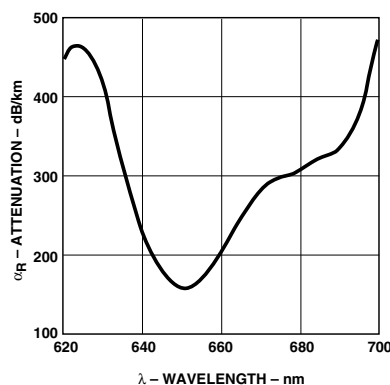

Figure 1. Typical POF attenuation vs. wavelength.
| Reference Attenuation        | $\alpha_R$ | 0.12 | 0.19                | 0.24 | dB/m | Source is 650 nm, 0.5 NA monochromator,$\mathcal{R}=50$ metersNote 7, Figure 1 |
7. Note that  $\alpha_R$  rises at the rate of about  $0.0067$  dB/ $^\circ\text{C}$ , where the thermal rise refers to the LED temperature changes above  $25^\circ\text{C}$ . Please refer to Figure 1 which shows the typical plastic optical fiber attenuation versus wavelength at  $25^\circ\text{C}$ .